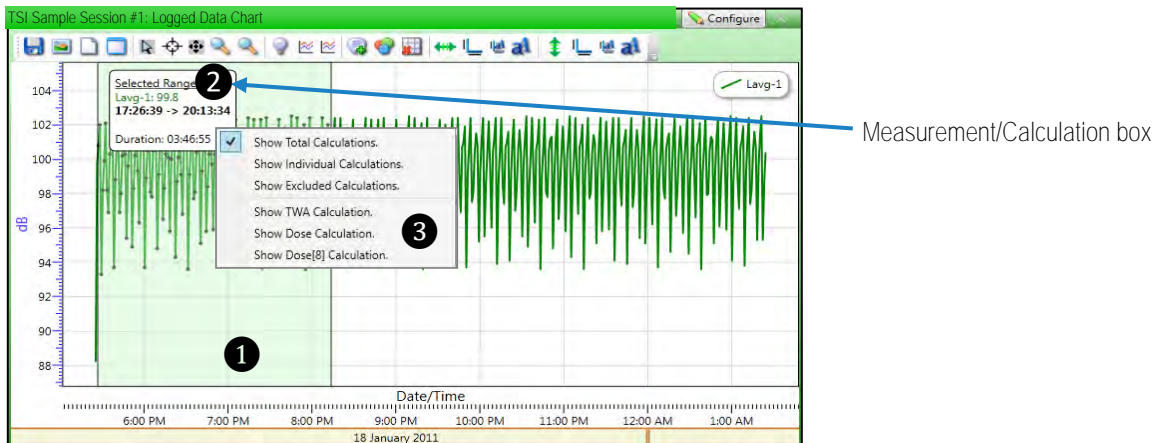

Figure 1-42: Edge and logged data chart
- Shading will appear over the selected data range (see ❶, Figure 1-42).
- A calculation box will appear (see ❷, Figure 1-42) above the chart showing the calculations.
- To change which options and additional calculations are displayed in the calculation box, right-click on the box and a context menu will appear (see **3**, Figure 1-42). Select your desired options: Show Total Calculations (a combined calculation of all selected ranges), Show Individual Calculations (an individual calculation for each selected range), and/or Show Excluded Calculations (a combined calculation of all non-selected ranges). Select your desired additional calculations: Show TWA Calculation, Show Dose Calculation, and/or Show Dose[8] Calculation.